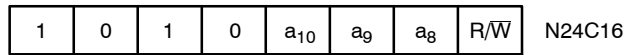

Figure 3. Slave Address Bits
The Master initiates data transfer by creating a START condition on the bus. The Master then broadcasts an 8-bit serial Slave address. For normal Read/Write operations, the first 4 bits of the Slave address are fixed at 1010 (Ah). The next 3 bits are used as programmable address bits when cascading multiple devices and/or as internal address bits. The last bit of the slave address, R/W, specifies whether a Read (1) or Write (0) operation is to be performed. The 3 address space extension bits are assigned as illustrated in Figure 3.  $a_{10}$ ,  $a_9$  and  $a_8$  are internal address bits.